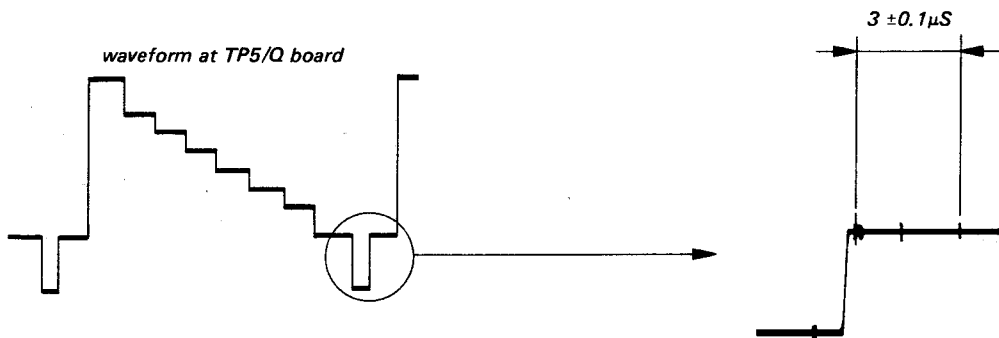

Fig. 5-37.
3. Adjust RV 5 on the Q board for a clamp pulse width of $3 \mu\text{s}$. (See Fig. 5-37.)